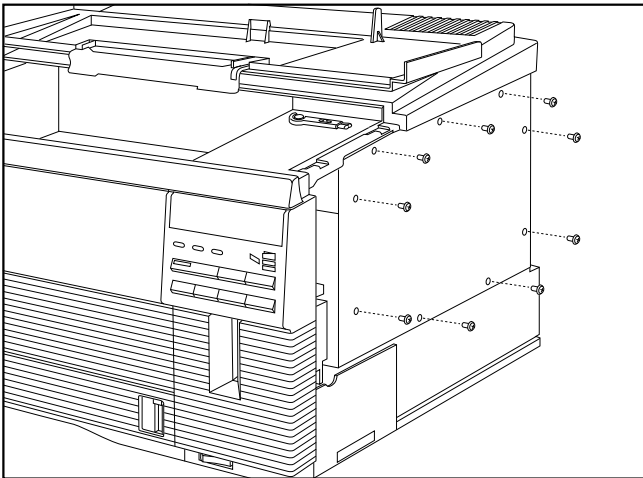

Fig. 9.10 Remove the EMI Shield Screws
7. Remove the 9 screws securing the EMI shield to the printer (fig. 9.10).